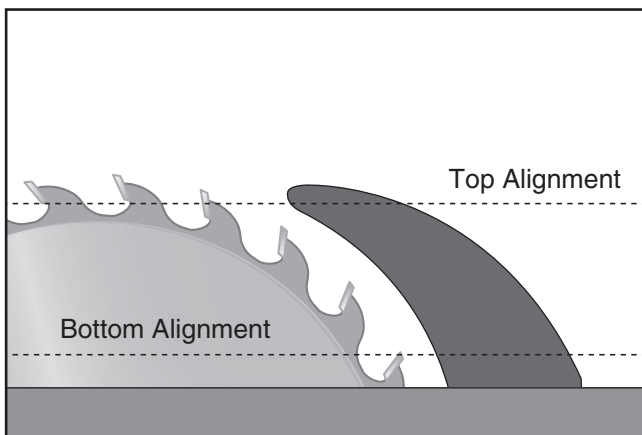
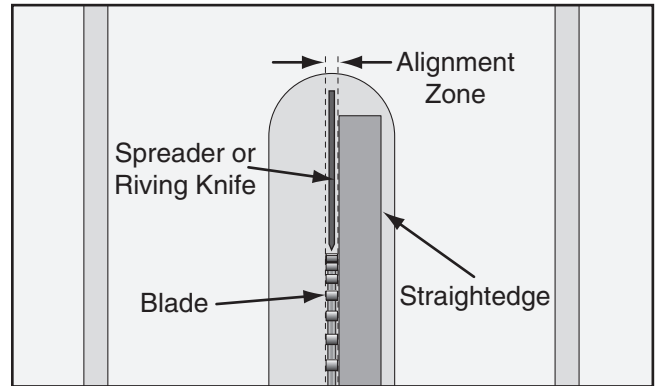

Figure 131. Checking top and bottom riving knife parallelism with blade.
Figure 132. Spreader/riving knife alignment zone.
4. Place the straightedge against the top and bottom of blade and spreader/riving knife, as shown in **Figure 131**. The spreader/riving knife should be parallel with the blade along its length at both positions and should be in the "Alignment Zone," as shown in **Figure 132**.